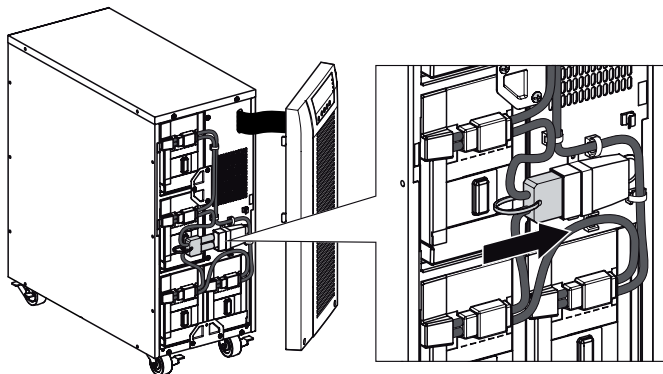

Figure 6. Connecting the UPS internal batteries.
2. Connect the internal battery connector (*see figure 6*).